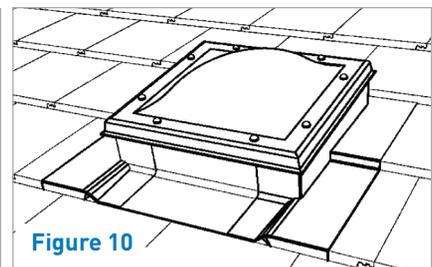

Figure 10
- **(For 350mm and 530mm systems)** Place the polycarbonate dome over the top of the starter tube interface plate. Fix to the kerb by means of security screws and cover caps supplied (**Figure 10**).